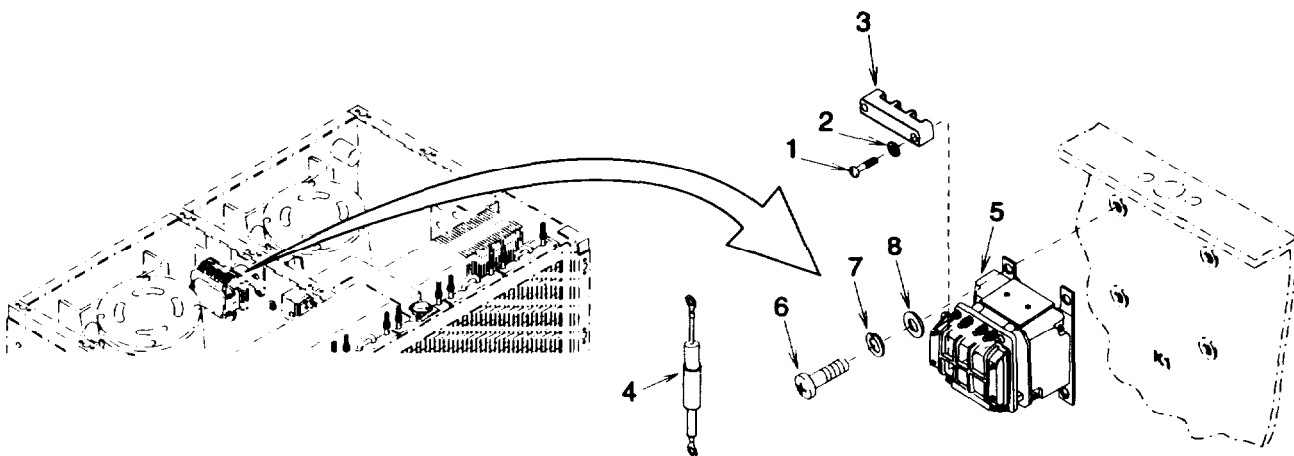

Figure 3-48. Relay (K1) and Diode (CR2)
(1) Relay (K1) and Diode (CR2) Removal.
- (b) Remove four screws (1) Figure 3-48, flat washers (2), and two terminal covers (3).
(1) Relay (K1) Installation.
- (a) Install relay (5) Figure 3-48, four screws (6), new lock washers (7), and flat washers (8).